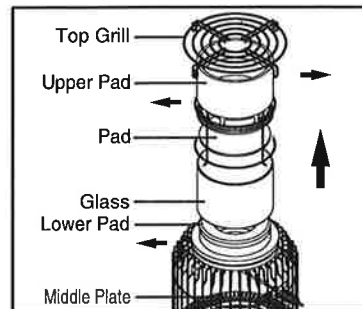

Fig. 3
- Remove the PAD from the heater as described in Fig 3.
Middle plate. (Fig 3)